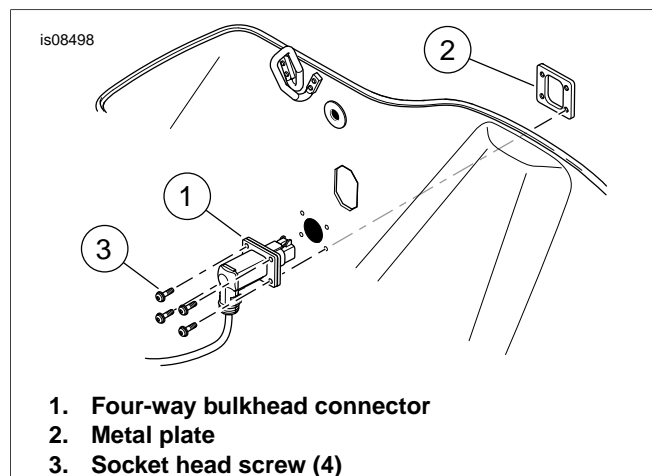

Figure 3. Four-Way Harness Connector Installation
- b. Drill four pilot holes (7) for the **upper** four-way connector [289-2A] flange mounting locations. Drill a pilot hole (6) for the connector location.
- c. Get the saddlebag harness (7) from **this** kit. See Figure 3. Verify pilot hole placement with the four-way flanged connector.